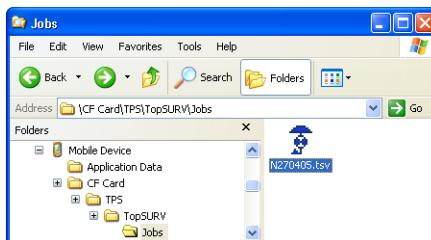

Figure 2-14. Search for the (*.tsv) file on the TPS Controller
3. Open Windows Explorer and click the *Mobile Device* folder. The right panel of the window displays the contents of the TPS Controller (Figure 2-14).